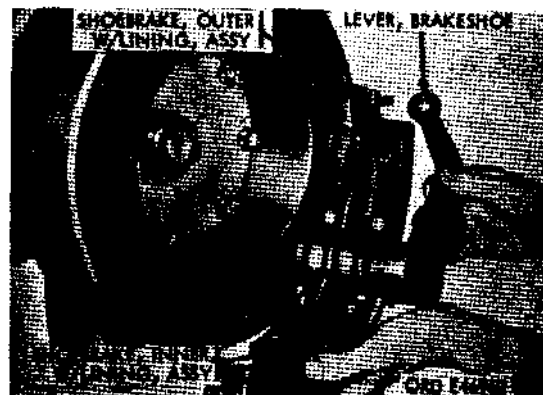

Figure 203. Parking brakeshoe lever and shoe assembly removed
- (c) Operate brakeshoe lever sufficiently to free outer brakeshoe with lining assembly from bracket, and pull the brakeshoe lever (fig. 203) and shoe assembly away from the brakedrum.
- (3) Remove rear output shaft companion flange.